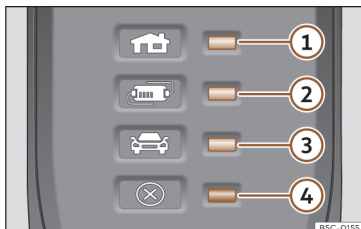

Fig. 213 On the charging cable for power sockets: Indicator lamps on the protection device.
>>> Fig. 213:
The electronic protection device >>> Fig. 213 ensures that the charging connector does not receive current until it is plugged in to the vehicle's charging connector.
One or more indicator lamps >>> Fig. 213 ①, ② or ③ light up green.
Display»» Fig. 213	Meaning
If the red warning light ④ flashes or turns on without one of the indicator lamps »» Fig. 213 ①, ② or ③ also turning on continuously on the status indicator, there is a fault.